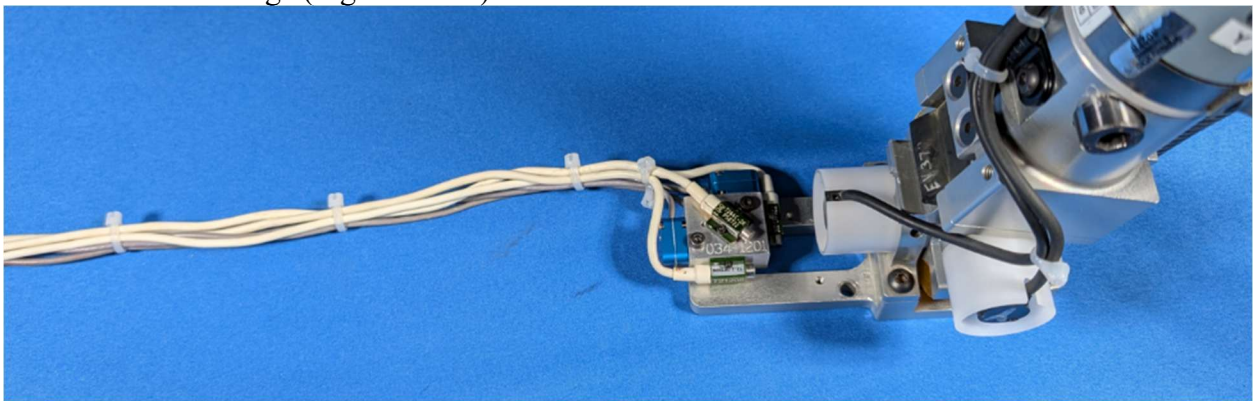

Figure 13-35. Foot instrumentation wiring slack and tie-wrap bundle at the 6-axis mount
13.4.4.3 After installing the 6 axis accel/ARS mount (474-5728-1,2) to the foot, gather the wiring from the instrumentation and bundle with tie-wraps, leaving enough slack so that the wires do not turn sharply from the base of each sensor and cause damage (Figure 13-35).